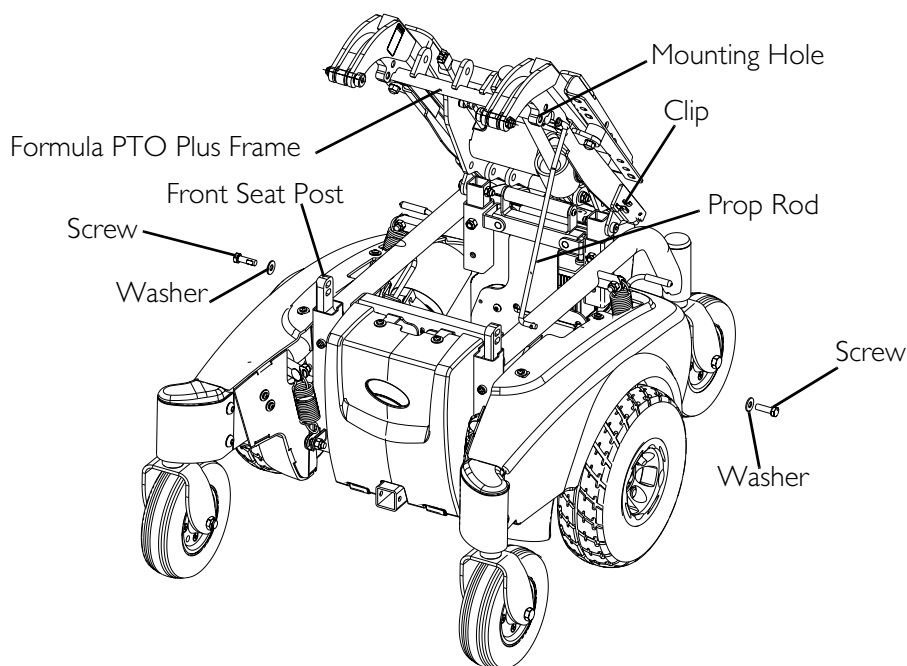

FIGURE 12.2 Tilting the Seat Assembly
NOTE: For this procedure, refer to FIGURE 12.2.
8. Remove prop rod from the clip located on the Formula PTO Plus frame and engage the prop rod end into the front seat post as shown in FIGURE 12.2.